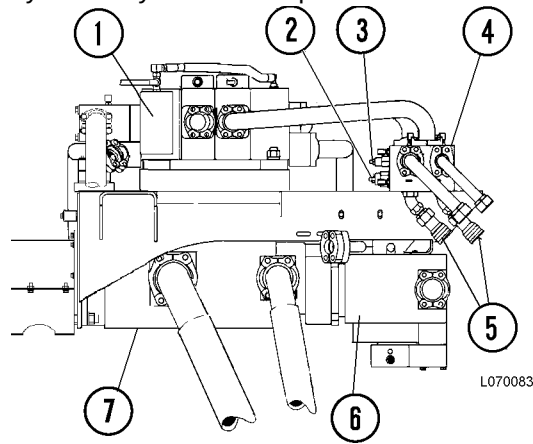

FIGURE 7-4. PUMP MODULE
The overcenter manifold (4, Figure 7-4), located on the pump module at the rear of hoist valve (1), contains counterbalance valve (2). This valve controls the pressure of the cushion of oil in the annulus area of the hoist cylinder when the body approaches the maximum dump angle. The valve limits the maximum pressure build-up by relieving pressure in excess of 20 400 kPa (3,000 psi), preventing possible seal damage.